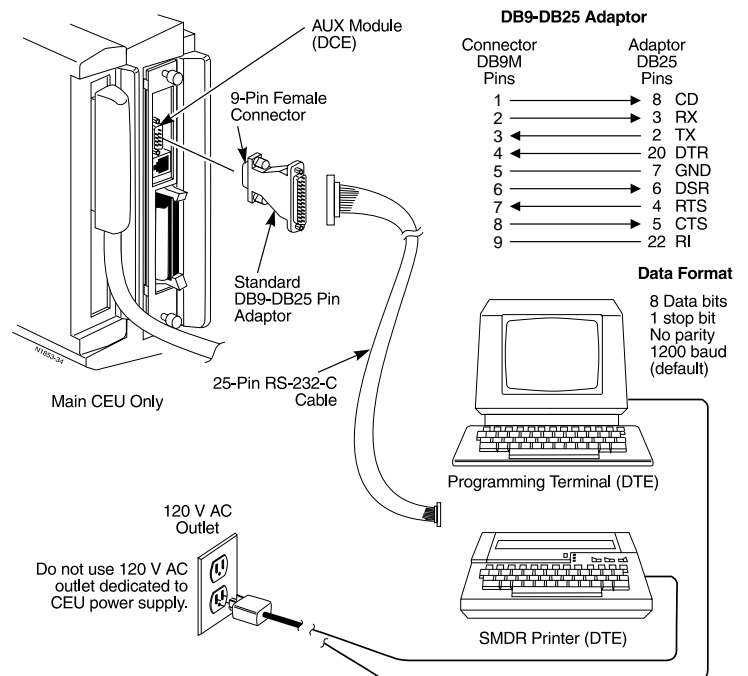

FIGURE 16
3. Connect the other end of the RS-232 cable to the serial port on the programming terminal, SMDR printer, or PC. See Figure 16.